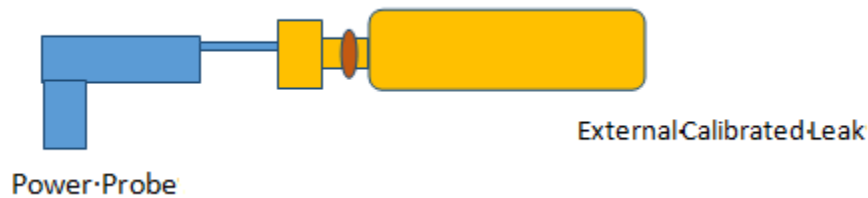

Figure 5-18 External Sniff Calibration Setup
7. Perform an external calibration using the sniffing probe (Figure 5-18) by: